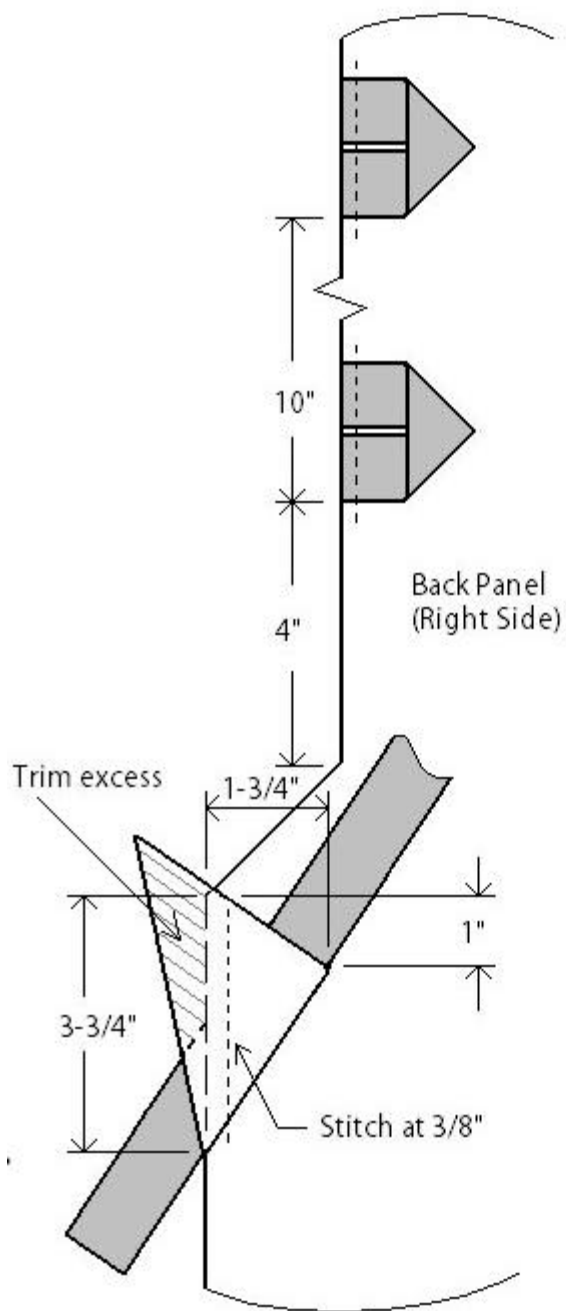

Figure 12. Placement of shoulder strap bottoms and lashing straps.
- 4.4.1** Sew the shoulder strap bottoms onto the back panel per *Figure 12*.
- 4.4.2** Sew the 4 – 3 1/2" Grosgrain lashing straps onto the back panel as shown in *Figure 12*.